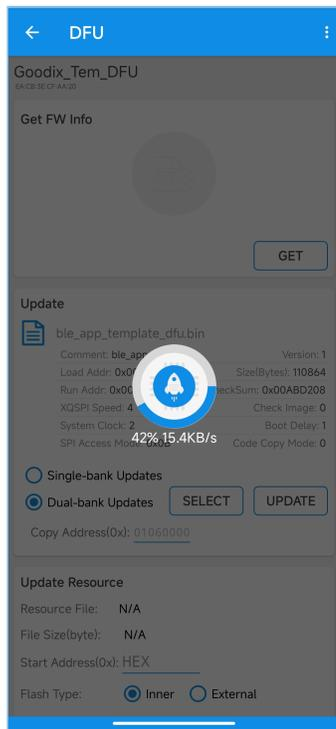

Figure 4-14 Upgrade progress
- Click **UPDATE** to start upgrade, as shown in Figure 4-14. During the upgrade process, there will be a circular progress view indicating the upgrade progress. After upgrade completes, "Upgrade completed." will be displayed at the bottom.